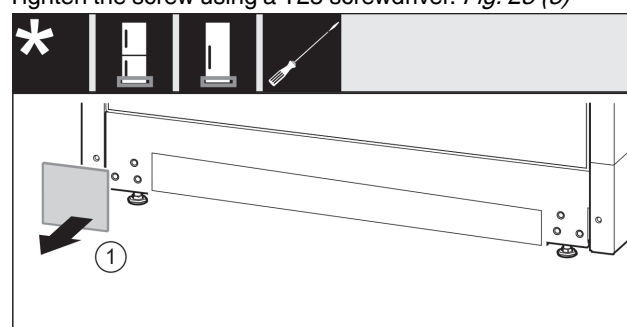

Fig. 24
- Remove the cover. Fig. 24 (1)